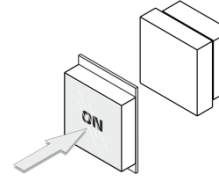

Figure 4: Placing the Button Cap
6. Retaining the orientation, place the button cap with the label over the buttons, see Figure 4.